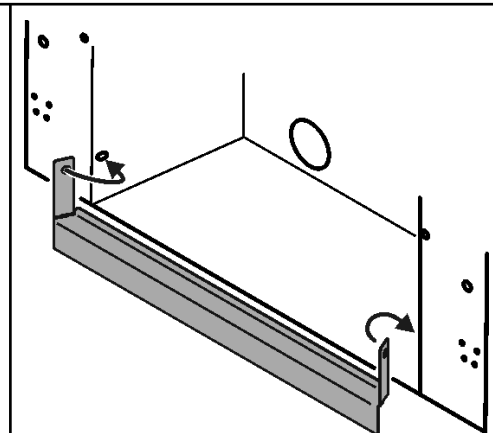

Figure 31. Baffle fitting (Shown without burner for clarity)
3. A 'Hole in the wall' baffle is supplied with 'Chic' models. In elevated installations this baffle will reduce the visibility of the sealing tape. If required, locate the baffle as in figure 31.